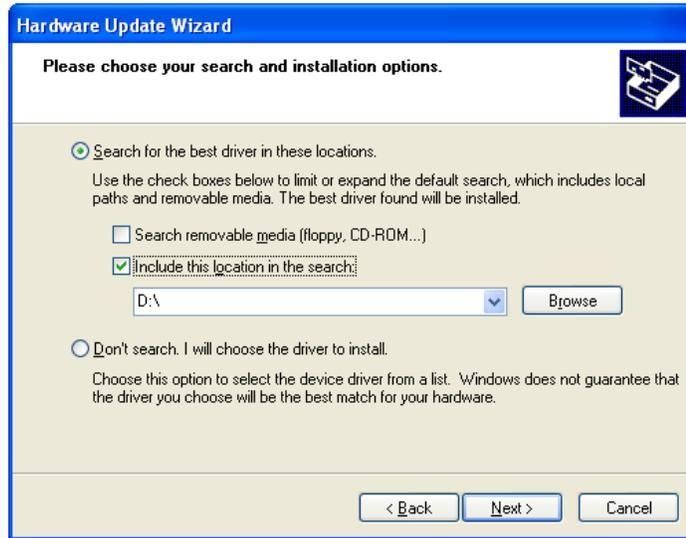

Figure 6-8: Search Options Window
Step 12: The following window (Figure 6-8) appears.